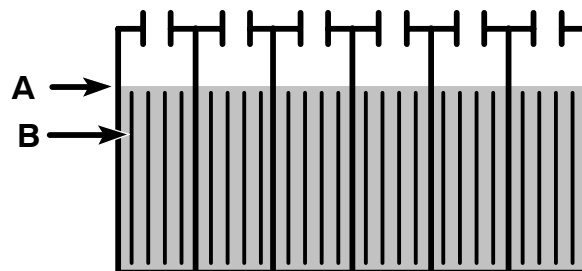

FIG. 18
The electrolyte level (A) should slightly cover the battery plates (B). Add distilled water as needed. DO NOT OVERFILL, the fluid may expand and overflow while charging. Replace cell caps before charging (Figure 18).